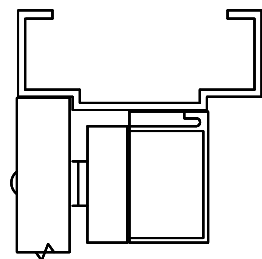
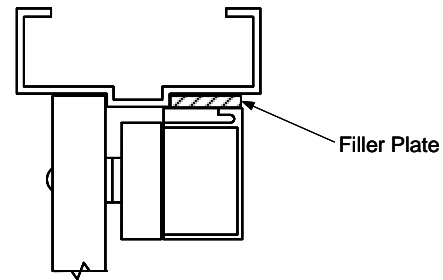

FIG. 2A
FIG. 2B
2. Prior to drilling, inspect to see if any of the holes cannot be drilled due to the frame or door configuration. A Filler Plate or Angle Bracket may be required as shown in Figures 2B and 2C (see page 6 for part specifications). Figure 2A is a typical regular install.